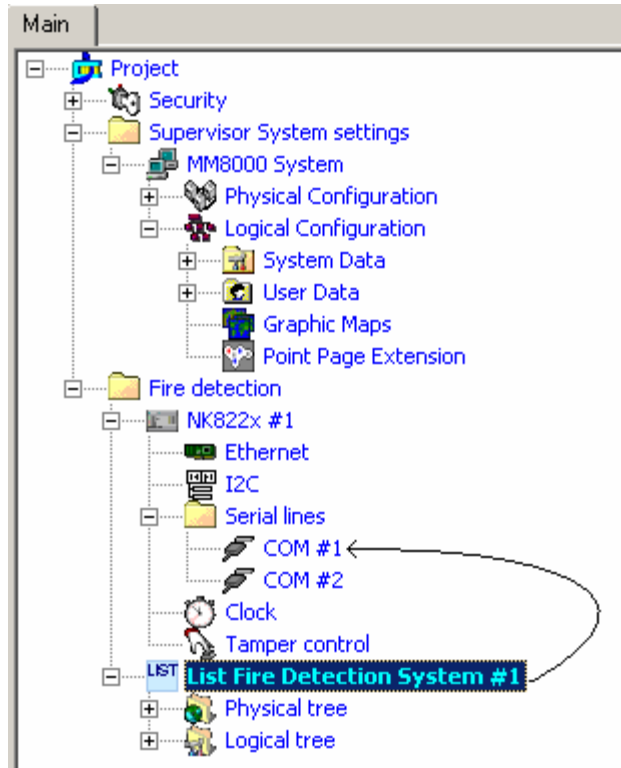

Fig. 14 Link LIST to the NK8000 network
3. Drag and drop the LIST node to the network COM port (see Fig. 14).